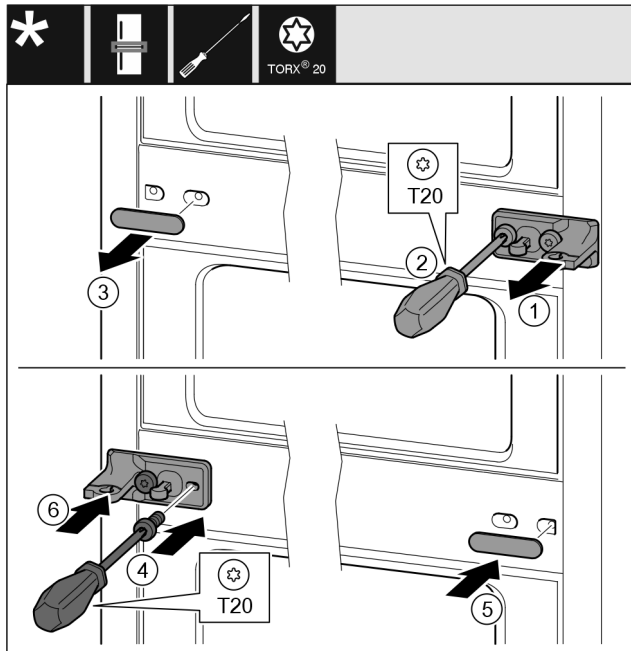

Fig. 31
- ▶ Pull off the washer Fig. 31 (1).
- ▶ Turn out the screws Fig. 31 (2) with the screw driver.
- ▶ Carefully pull off the cover Fig. 31 (3).
- ▶ Tightly screw on the swap bearing block with film Fig. 31 (4) on the other side turned by 180°.
- ▶ Attach the cover Fig. 31 (5) on the other side turned by 180°.
- ▶ Press on the washer Fig. 31 (6) from the front.